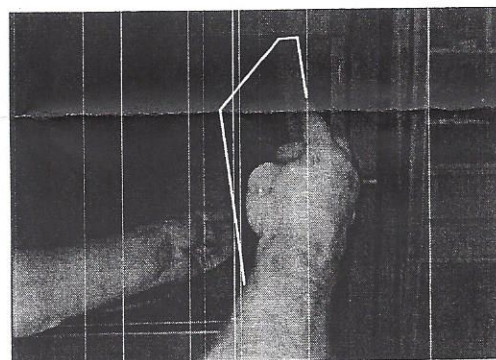

Figure 4
5. Place your finger on the top front edge and work the brick from side to side until it comes out. **Figure 4.**